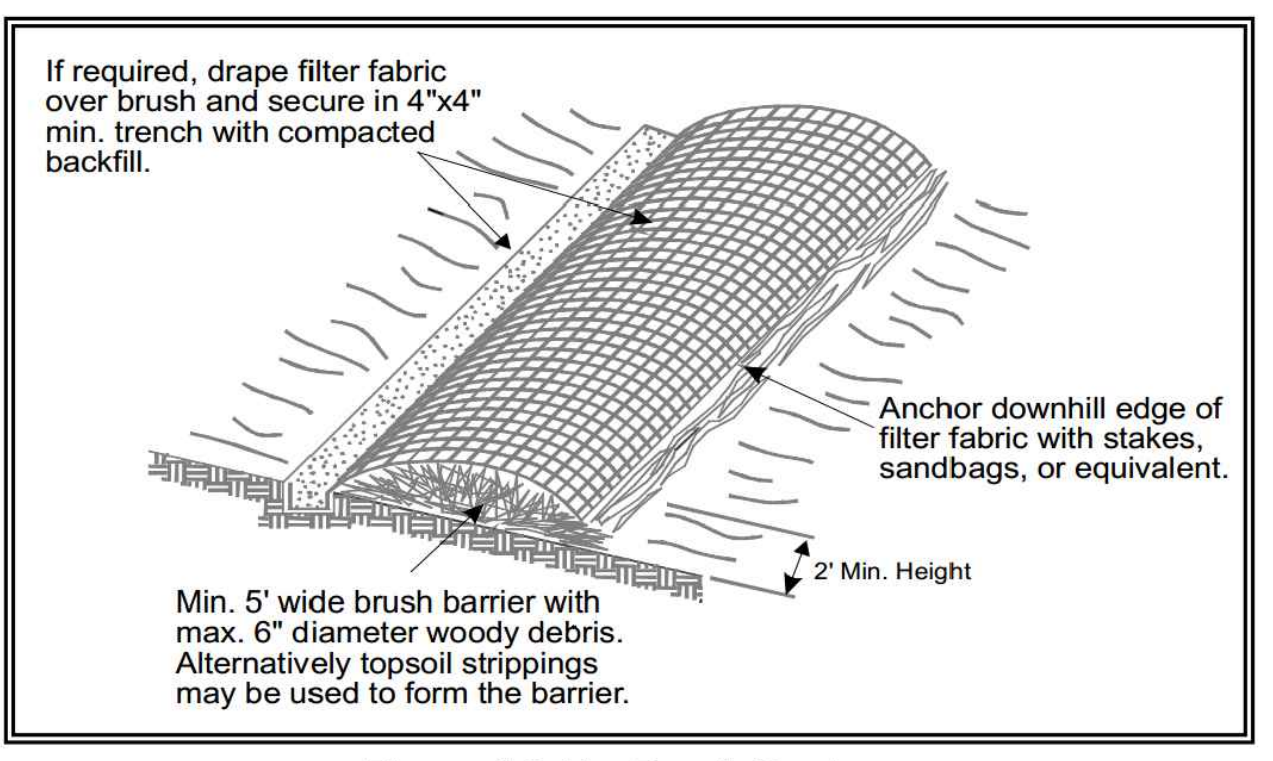

Figure 4.2.11 - Brush Barrier
- A 100 PERCENT BIODEGRADABLE INSTALLATION CAN BE CONSTRUCTED USING 10-OUNCE BURLAP HELD IN PLACE BY WOODEN STAKES. FIGURE 4.2.11 DEPICTS A TYPICAL BRUSH BARRIER.